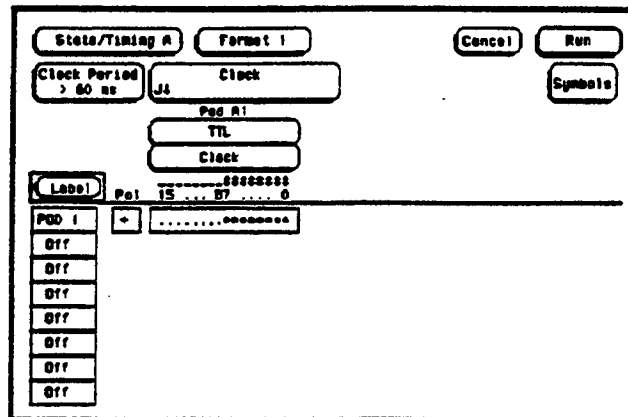

Figure 3-5. Format Screen for Pod 1 and J Clock Test
4. Assign appropriate clock, a falling edge, a clock period > 60 ns, and bits 0 through 7 of the pod under test to a label in the Format screen as shown in figure 3-5. Refer to steps a and b if unfamiliar with the menus.